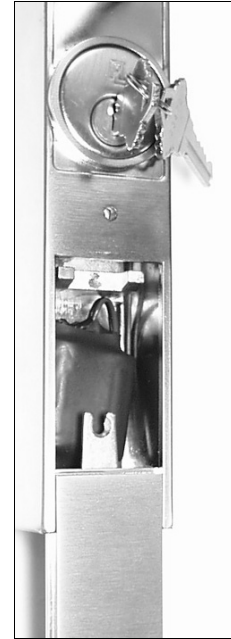

Fig. 5b: Install the battery pack
- 5b. Install battery pack into the battery compartment. Neatly push all wiring inside the compartment. **Hold-ing battery in place**, slide cover back on. See Fig. 5b.